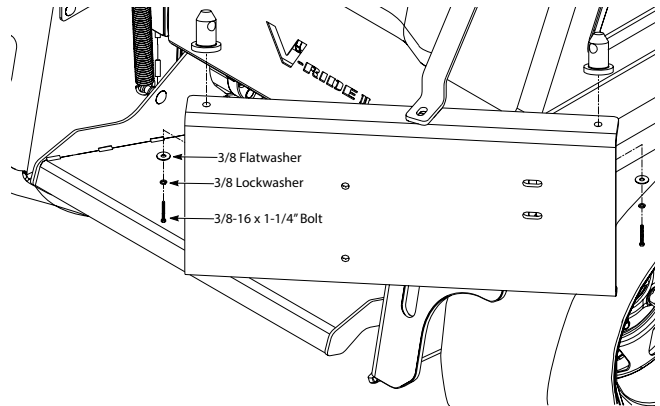
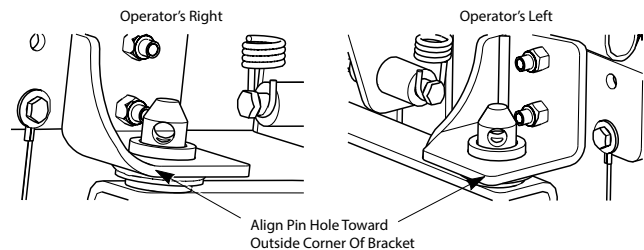

Figure 2-11. Hopper Mounting Hardware Install
Figure 2-12. Pin Alignment
3. Install the mounting pins on to the rear of the machine as shown. Secure using the hardware provided. See Figure 2-11. Note pin alignment in Figure 2-11 and Figure 2-12. This will allow for proper snap pin installation.